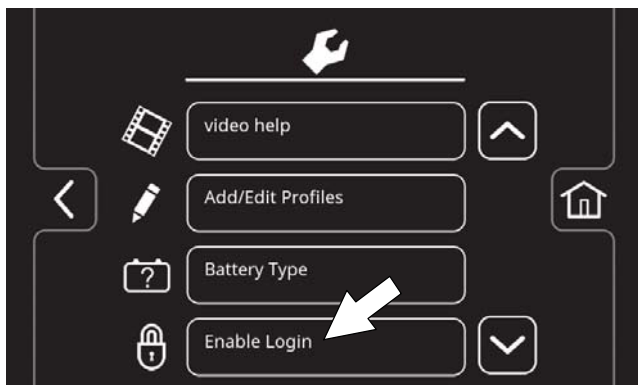

FIG. 168
4. Press the Enable Login button (Figure 168). The Enable button will change from Enable Login to Disable Login.